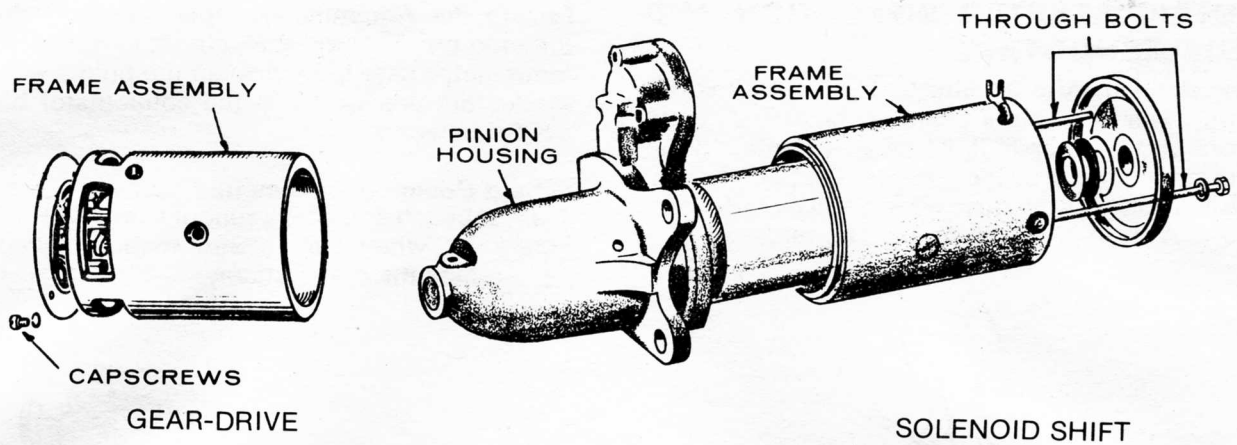

FIGURE 24. STARTER DISASSEMBLY
3. Remove the starter motor thru-bolts and separate the starter into three main assemblies — the front bracket, the housing and the rear bracket. On some gear-drive starters, short capscrews are used to hold the three starter sections together, Figure 24. The spacers on the solenoid starter in Figure 24 are used for adjustment of the thrust gap of the armature shaft and are located between the rear bracket and the commutator shaft.